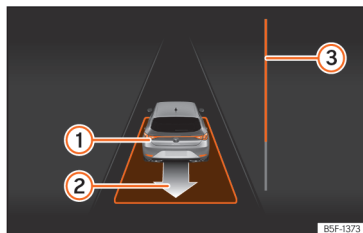

Fig. 161 On the instrument panel display: driving off from perpendicular parking.
- Reverse until the continuous ParkPilot signal sounds; **OR:** reverse until the instrument panel display shows the forward indication. The progress bar **»» Fig. 161 ③** indicates the distance to cover.